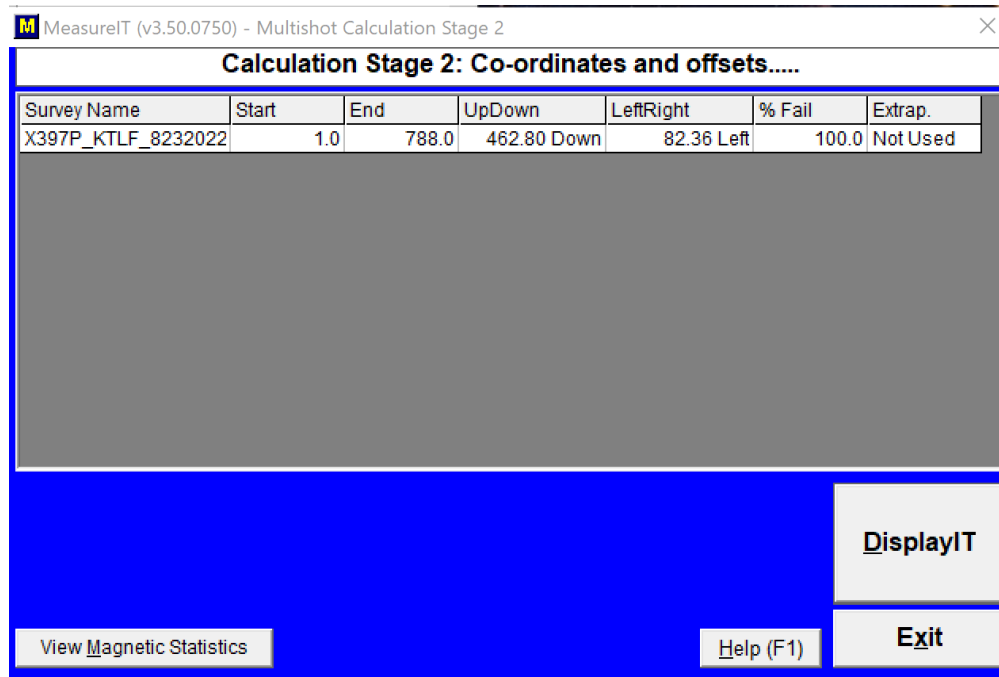

Figure 16 Calculation of station numbers
11. The next step is to calculate out the number of the first station that should be very close to the orientation window for each core (**Figure 16**). Consider that station numbers in a survey file are time proxies, i.e. each station represents 6 seconds. You can get the tool initialization time and date from either the raw or processed survey file (in GMT since IODP workstations are set to that zone). It may be easier to convert the time to local ship's time for the processing step and to recollect the timing of some operational details that may pertain to the orientation data.